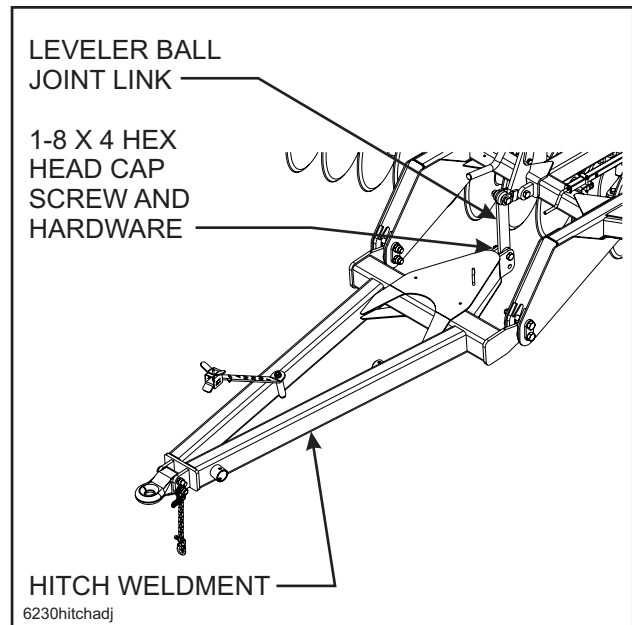

Figure 4-13 Hitch Adjustment
- 4-12.4** To adjust the hitch (See Figure 4-13):